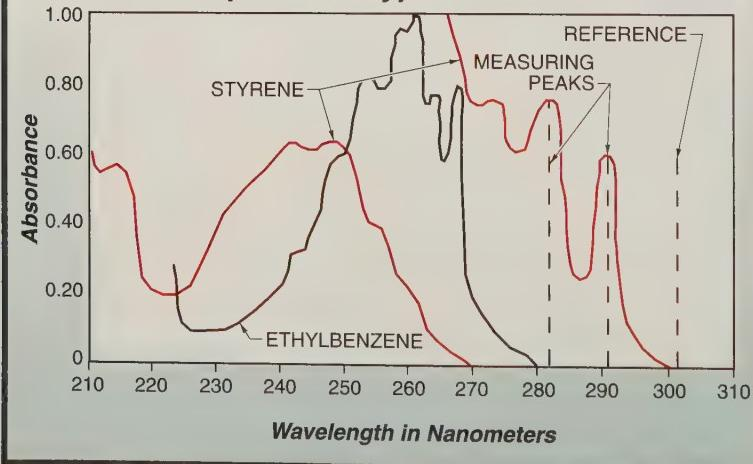

Figure 23-6. UV analyzers measure a characteristic wavelength of the UV spectrum to determine the amount of a gas present in a sample.
Ultraviolet (UV) Analyzers. An *ultraviolet (UV) analyzer* is a radiant-energy absorption analyzer consisting of a UV electromagnetic radiation source, a sample cell, and a detector that measures the absorption of UV radiation by specific molecules. See **Figure 23-6**. The various photodetectors that can be used to measure the UV radiation exiting the absorption chambers are silicon diodes, vacuum phototubes, photomultiplier tubes, barrier layer (photovoltaic) cells, and linear photodiode array detectors.